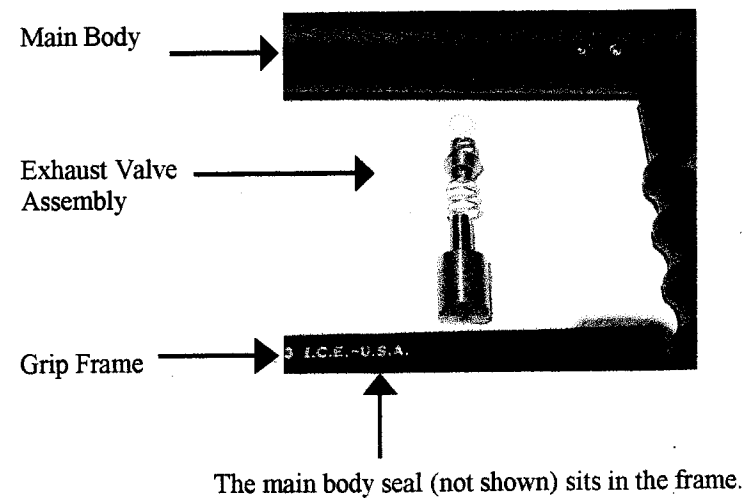

FIG 3.1
3. Once the main body and grip frame are separated, the exhaust valve and the main body seal will be exposed (See FIG. 3.1). The main body seal is a small o-ring located behind the trigger cavity and must be in place to seal the air that transfers from the grip to the main body. Make sure this seal is in place when reassembling these parts.